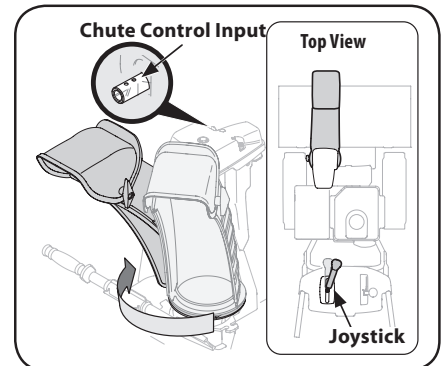

Figure 2-24
4. Squeeze trigger on joystick and rotate chute by hand to face forward. The holes in chute control input will be facing up. See Figure 2-24.